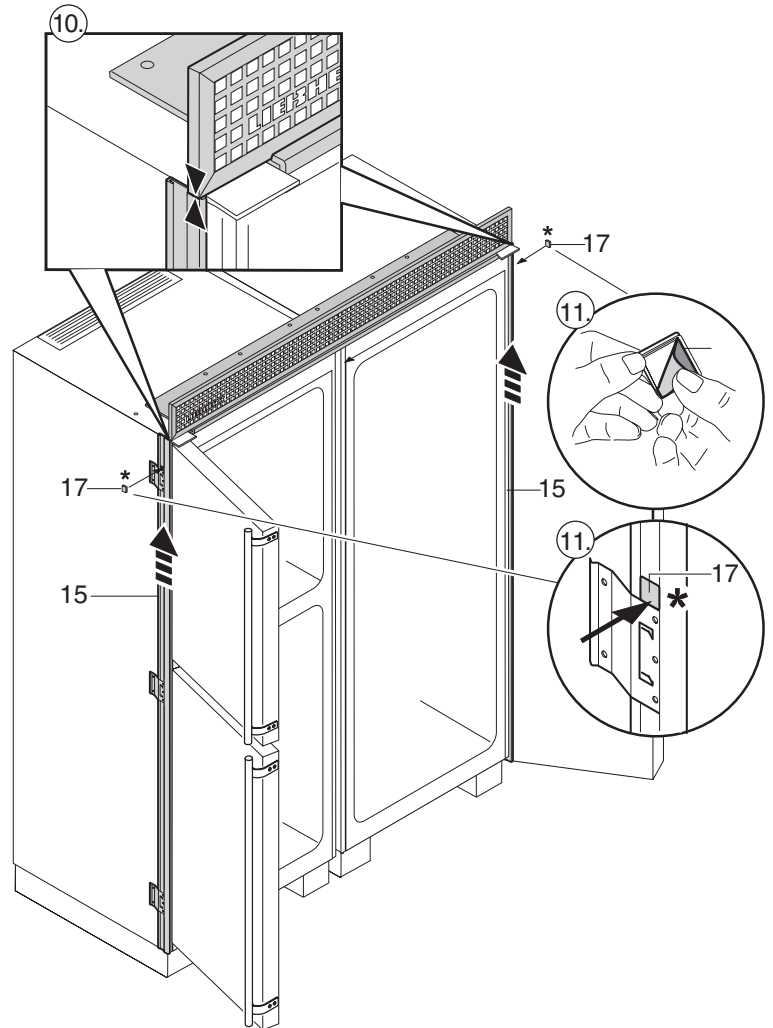
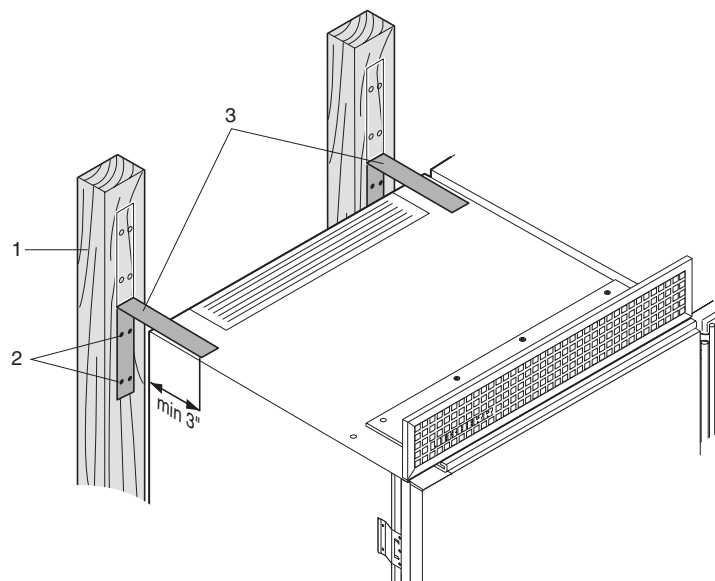

Figure 28
Figure 29
10. **Figure 28:** Slide the side installation frames (15) upward until they are in contact with the underside of the ventilation grille, **Figure 28**.
11. Secure the side frames with the adhesive section (17) to prevent them from sliding down. Remove the protective film and place the adhesive sections over the upper brackets.
12. **Figure 29:** Install anti-tip brackets for each appliance. Refer to "Blocking For Safety."